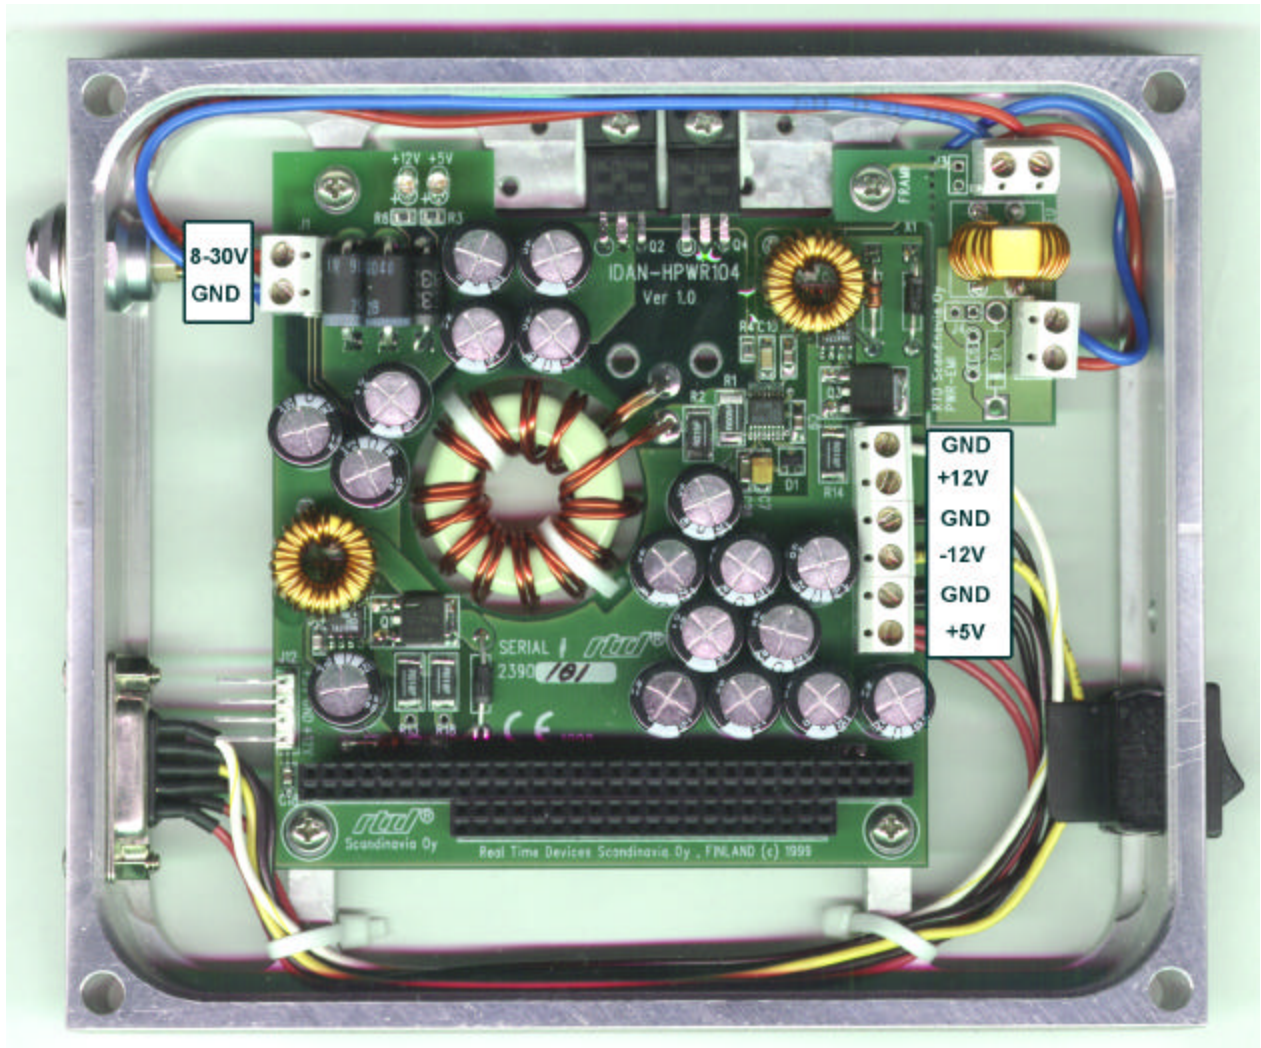

Fig. 2-2 HPWR104HR power supply power connections
- Fig. 2-2: HPWR104HR power supply power connections**